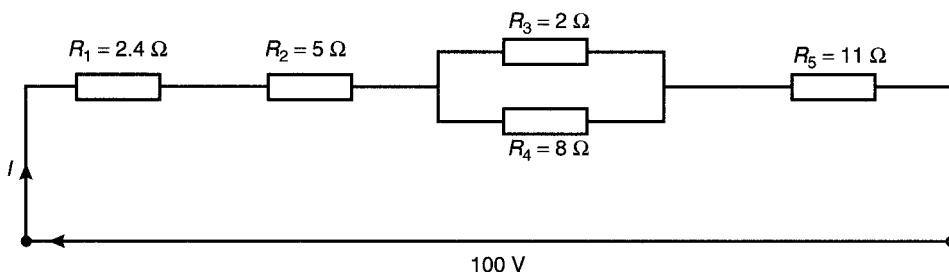

Figure A2.1
- 1 Resistances of 5Ω , 7Ω , and 8Ω are connected in series. If a 10 V supply voltage is connected across the arrangement determine the current flowing through and the p.d. across the 7Ω resistor. Calculate also the power dissipated in the 8Ω resistor. (6)
- 2 For the series-parallel network shown in Fig. A2.1, find (a) the supply current, (b) the current flowing through each resistor, (c) the p.d. across each resistor, (d) the total power dissipated in the circuit, (e) the cost of energy if the circuit is connected for 80 hours. Assume electrical energy costs 7.2p per unit. (15)
- 3 The charge on the plates of a capacitor is 8 mC when the potential between them is 4 kV . Determine the capacitance of the capacitor. (2)
- 4 Two parallel rectangular plates measuring 80 mm by 120 mm are separated by 4 mm of mica and carry an electric charge of $0.48\mu\text{C}$. The voltage between the plates is 500 V . Calculate (a) the electric flux density (b) the electric field strength, and (c) the capacitance of the capacitor, in picofarads, if the relative permittivity of mica is 5. (7)
- 5 A $4\mu\text{F}$ capacitor is connected in parallel with a $6\mu\text{F}$ capacitor. This arrangement is then connected in series with a $10\mu\text{F}$ capacitor. A supply p.d. of 250 V is connected across the circuit. Find (a) the equivalent capacitance of the circuit, (b) the voltage across the $10\mu\text{F}$ capacitor, and (c) the charge on each capacitor. (7)
- 6 A coil of 600 turns is wound uniformly on a ring of non-magnetic material. The ring has a uniform cross-sectional area of 200 mm^2 and a mean circumference of 500 mm . If the current in the coil is 4 A , determine (a) the magnetic field strength, (b) the flux density, and (c) the total magnetic flux in the ring. (5)
- 7 A mild steel ring of cross-sectional area 4 cm^2 has a radial air-gap of 3 mm cut into it. If the mean length of the mild steel path is 300 mm , calculate the magnetomotive force to produce a flux of 0.48 mWb . (Use the B-H curve on page 71) (8)